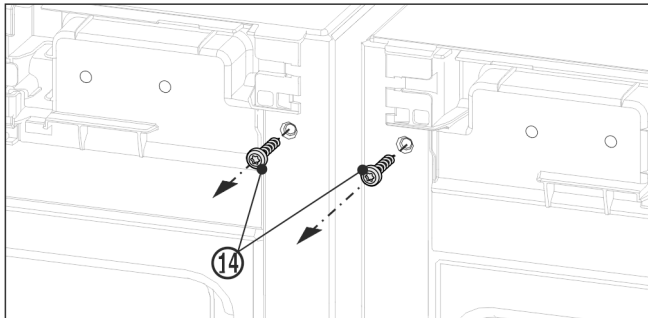

Fig. 13
- ▶ Before fitting the top bracket remove both earthing screws Fig. 13 (14).